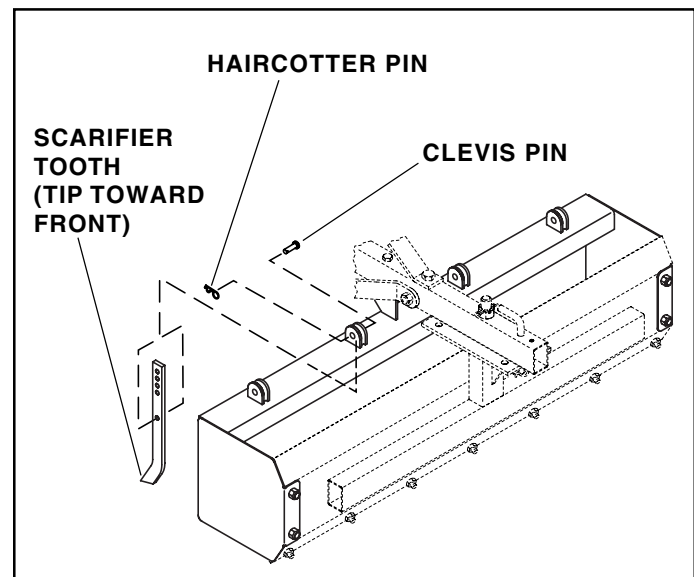

FIGURE 3
3. Attach four scarifier teeth to the box scraper using a clevis pin and a haircutter pin for each tooth. Put the tip of each scarifier tooth toward the front of the box scraper. See figure 3.